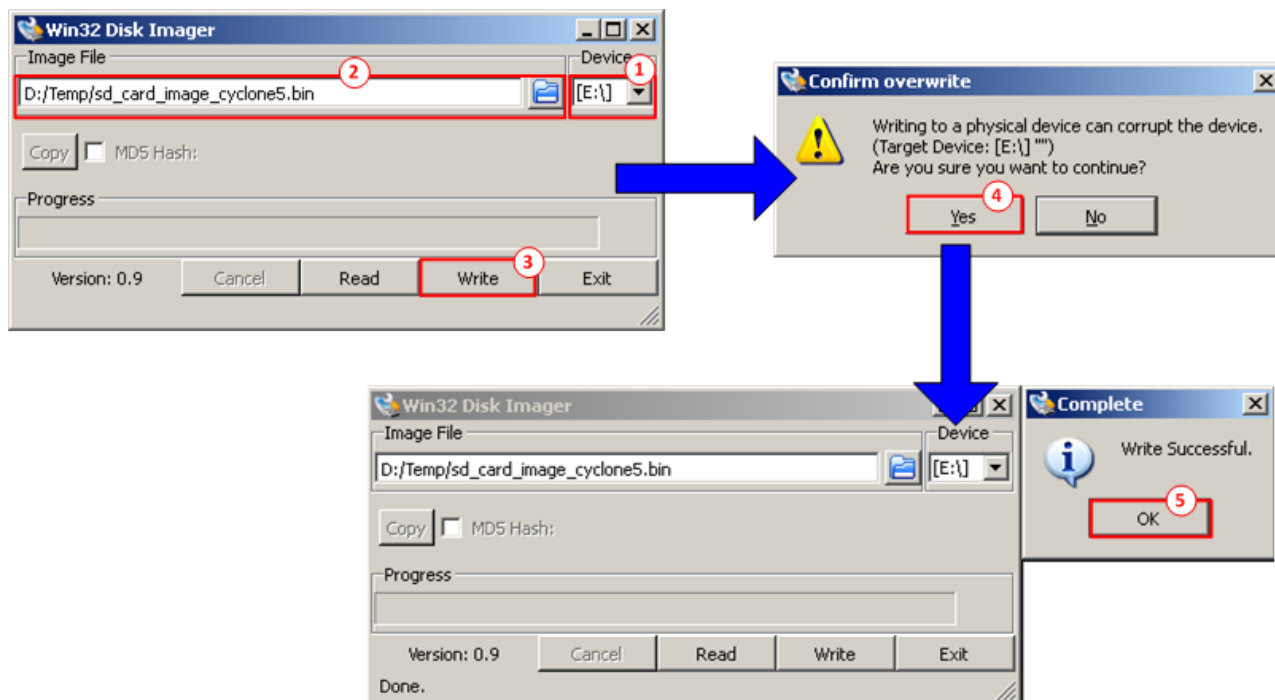

Figure 2-1 Create SD Card Image for SATA AHCI-IP Demo
- Run “Win32DiskImager” to copy “sd_card_image_cyclone5/arria5/arria10.bin” to microSD, as shown in Figure 2-1.